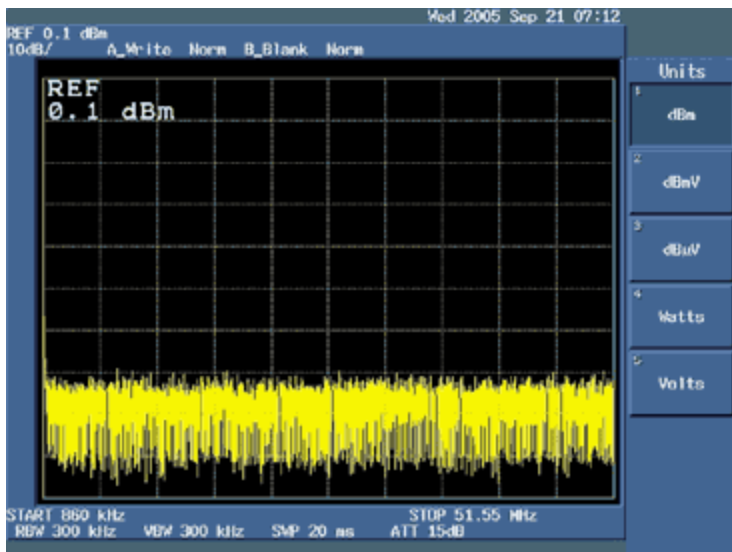

Figure 5. Selecting dBm as the desired display units.
4. Press soft key #5 (**Units**) and select soft key #1 (**dBm**) as the desired display units, as shown in **Figure 5** and then press the **RETURN** key.